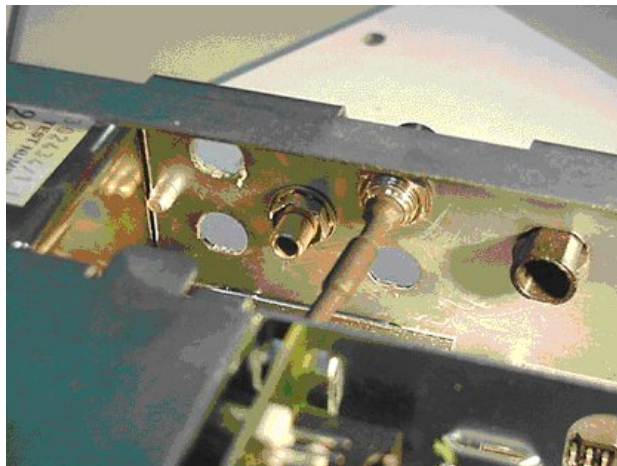

Figure A-5 Remove three hold plugs
- 5 Use the razor blade or craft knife to remove three hole plugs in the rear panel, as shown in **Figure A-5**.